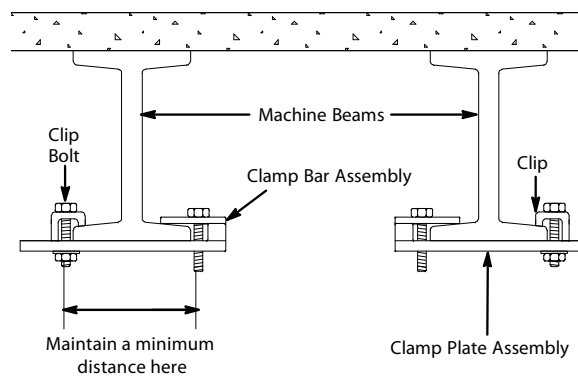

Figure 10 - Clip and Clamp Bar Assembly
1. Assemble the clips and clamp bar assemblies to the clamp plate assemblies, and then attach to the machine beams. See Figure 10.